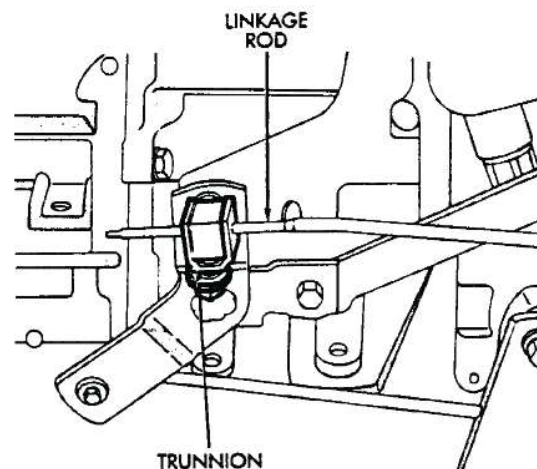

Fig 1-6 Shift Linkage-60/70 Series
5. Loosen the trunnion lock bolt (Fig. 1-6). Linkage rod should now slide freely in the trunnion.
7. Position the linkage rod so it is a free fit in the range lever (Fig. 1-6). Then tighten the trunnion locknut.